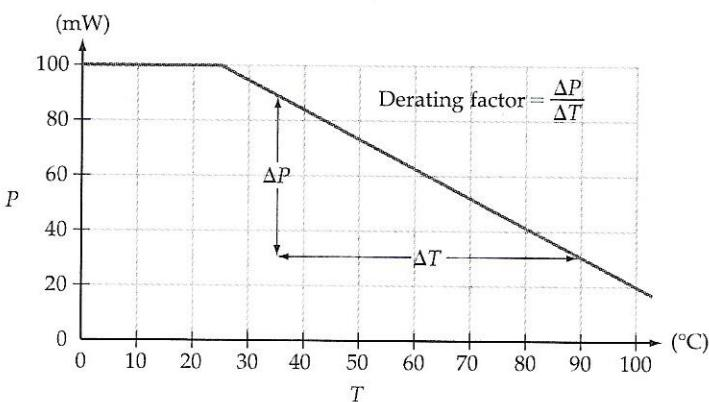

Figure 2-16 A power-versus-temperature graph shows how the maximum power dissipation of a device must be derated with increasing temperature.
Figure 2-16 shows the type of power-versus-temperature graph provided on device data sheets. The maximum power dissipation for any temperature
As an alternative to power or current graphs, a *derating factor* is often listed on device data sheets. The derating factor defines the slope of the power-versus-temperature graph (see Fig. 2-16); it can be employed to draw the graph or used directly without reference to the graph. The equation for the maximum power dissipation when the temperature changes involves the specified power at the specified temperature (P_1 at T_1), the derating factor (D), and the temperature change (ΔT).
- 2-5.1 A diode with a constant 0.65 V forward drop has the power-versus-temperature graph in Fig. 2-16. Calculate the maximum forward current that may be passed at 25°C and at 80°C.